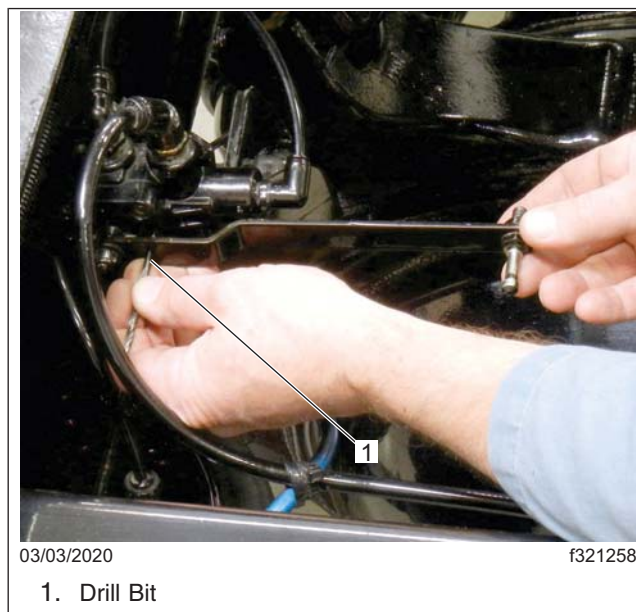

Fig. 5, Locking the Lever in a Neutral Position
3. Lock the lever in neutral position with a 5/32-inch drill bit or nylon rod. See Fig. 5.